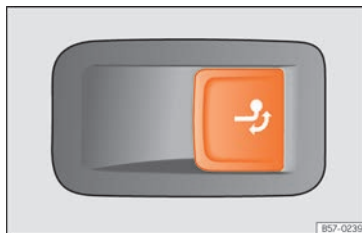

Fig. 180 Right side of the luggage compartment: button to unlock the tow hitch.
- Pull the >>> **Fig. 180** button briefly. The tow hook unlocks electrically and automatically turns outwards. The button's control lamp flashes.
- Pull the >>> **Fig. 180** button briefly. The tow hook unlocks electrically.
- Never press the button >>> Fig. 180 when there is a trailer hooked to the vehicle or when a carrier system or other accessories are mounted on the tow hook.